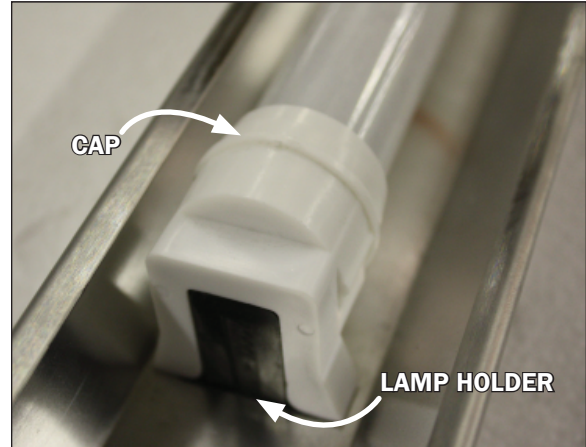

Fig. 5 T-8 cap and lamp holder
2. Carefully separate the cap from the lamp holder on both ends of the T-8 lamp (Fig. 5). Simultaneously pull down at both ends of the old T-8 lamp to remove.